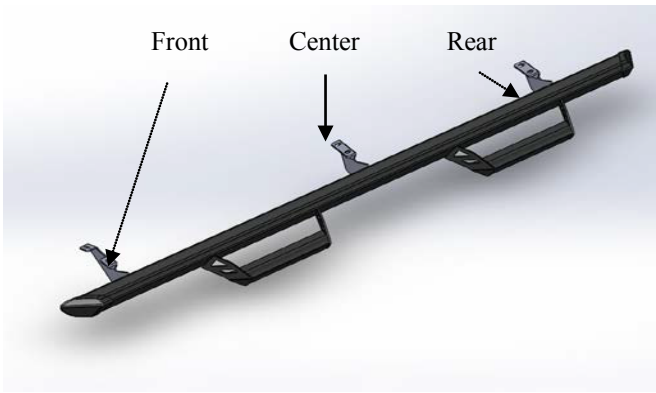

Figure 3
- Starting with one of the Center bracket, Start one 8mm bolt into the factory threaded holes. See Figure 3.